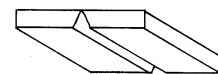

Figure 2.1
2. Position the metal so that the joint to be welded is in the overhead position. (See Figure 2.1.)